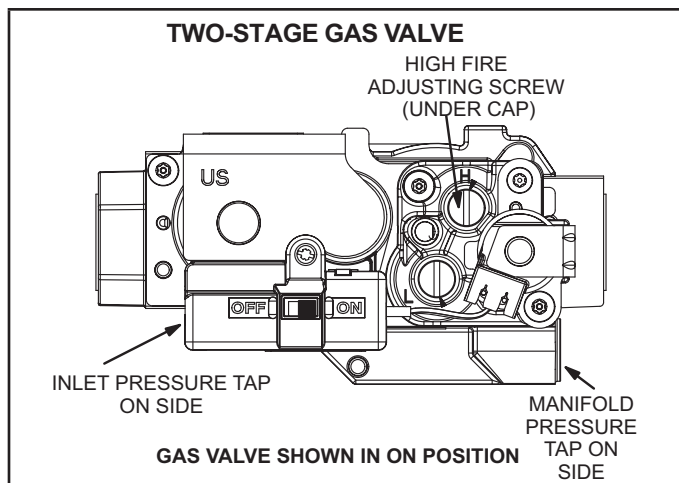

FIGURE 6
- 1 - Connect test gauge to manifold pressure tap (figure 6) on gas valve.
- 4 - If necessary, make adjustments. Figure 6 shows location of high fire adjustment screw.